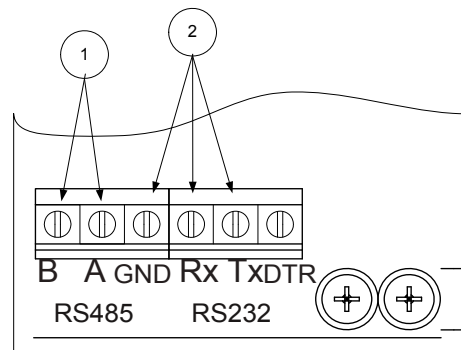

Fig.8
2.7. Connect the local network wires Fig.8:
- if the interface is type RS232, connect the three-wire line to terminals Rx, Tx and GND pos.2 (Fig.8);
- if the interface is type RS485, connect the two-wire line to terminals „A” and „B” pos.1 (Fig.8).
3.8. Connect the local network wires Fig.8: